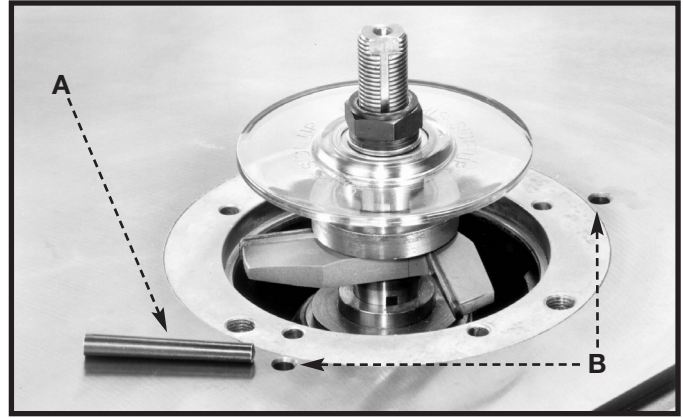

Fig. 44
1. The machine is supplied with a tapered starting pin (A) Fig. 44, which is used as a support when starting the cut. The starting pin (A) is placed in one of the tapered holes (B) in the table.